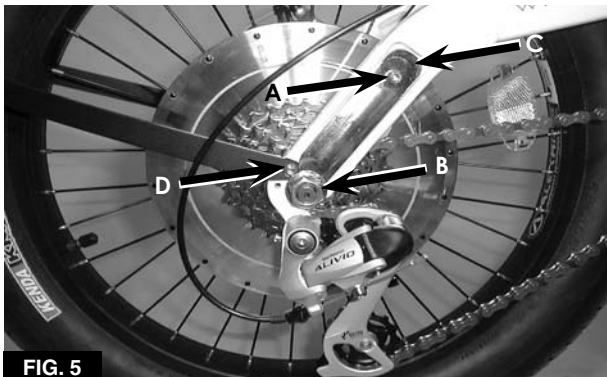

FIG. 5
5. Remove the torque arm bolt (A, **Figure 5**).
7. Remove the right axle nut (B, **Figure 5**).
8. Pry the top of the torque arm (C, **Figure 5**) from the swingarm cutout.
c. Install the torque arm (C, **Figure 5**) over the rear axle, and seat the arm in the swingarm cutout. Hand tighten the torque arm bolt (A, **Figure 5**) at this time.
2. Remove the fender stay bolt (D, **Figure 5**) from each side of the swingarm.